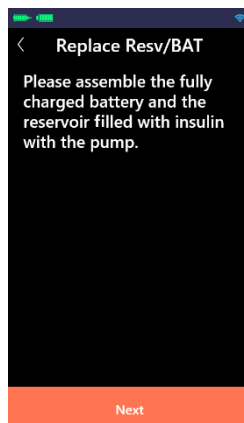

Figure 4.20
(2) Assemble the fully charged battery and the reservoir filled with insulin with the pump (as shown in Figure 4.20). After the assembly is completed, please click “Next”.